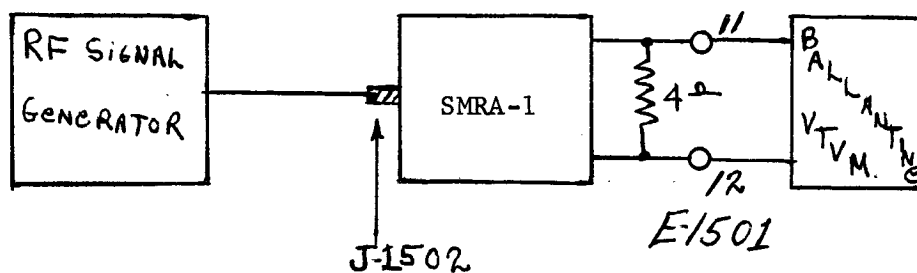

FIGURE 2.
6. SENSITIVITY CHECK Disconnect TPC-11 from its connector, and turn off LSP-6X switch. Set up in accordance with Figure 2.